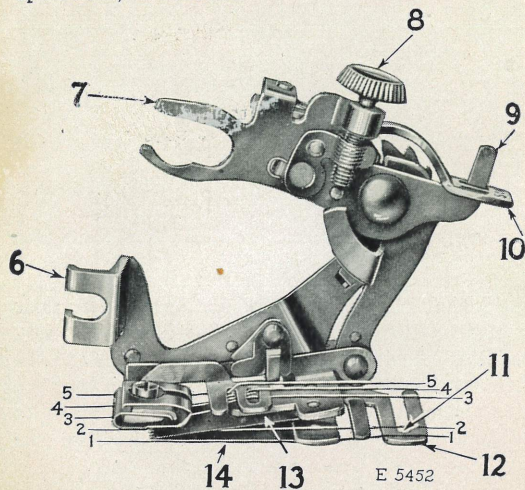
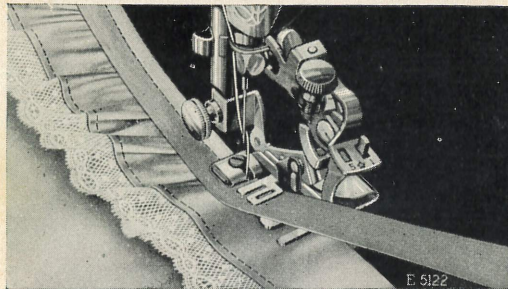
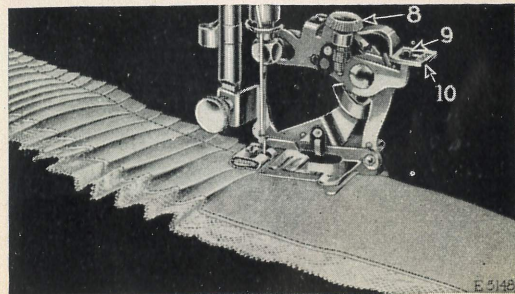

FIG. 35. THE RUFFLER AND ITS PARTS
FIG. 38
FIG. 40
Lines 1, 2, 3, 4 and 5 shown in Fig. 35 indicate where the material is to be placed for various operations, as follows:
Refer to Fig. 35 when inserting the material in the ruffler.
(SEE NOS. IN FIG. 35)
enter the slot marked "1" in the adjusting lever (10) when the lever is released. The ruffling blade will then move forward and back once at every stitch. Insert the material to be ruffled between the two blue blades, following the line 2 in Fig. 35. Draw the material slightly back of the needle, lower the presser bar and commence to sew.
2, in Fig. 35. Place the garment to which the ruffle is to be attached, under the separator blade, following the line 1, in Fig. 35. Proceed the same as for plain gathering.
Insert the material to be ruffled between the two blue blades, following the line 2, in Fig. 35. Place the garment to which the ruffle is to be attached, under the separator blade, following the line 1, in Fig. 35. Place the material for the facing over the upper blue blade, as shown in Fig. 38, following the line 3, in Fig. 35. The facing may be straight or bias material. If the facing is to be on the right side of the garment, place the garment and
Insert the material to be ruffled between the two blue blades, following the line 2, in Fig. 35. This
The material for piping must measure about $\frac{1}{4}$ inch wide when folded in the centre and is usually cut on the bias. Place the piping material in the ruffler, following the line 4, in Fig. 35, with the folded edge of the piping to the right. The material to which the piping and ruffling are to be sewn should be folded on the edge and inserted in the ruffler, following the line 5, in Fig. 35.
Raise the adjusting lever (10, Fig. 40) and move it to the right so that the projection (9, Fig. 40)
will enter the slot marked "5" in the adjusting lever when the lever is released. The ruffling blade will then move forward and back once at every five stitches. Insert the material to be plaited between the two blue blades, following the line 2, in Fig. 35. The fullness of the plaits is regulated by the adjusting screw (8, Fig. 40) and the length of stitch. To make a fuller plait, turn the adjusting screw (8) down, also lengthen the stitch. To make a finer plait, turn the adjusting screw (8) up, also shorten the stitch.